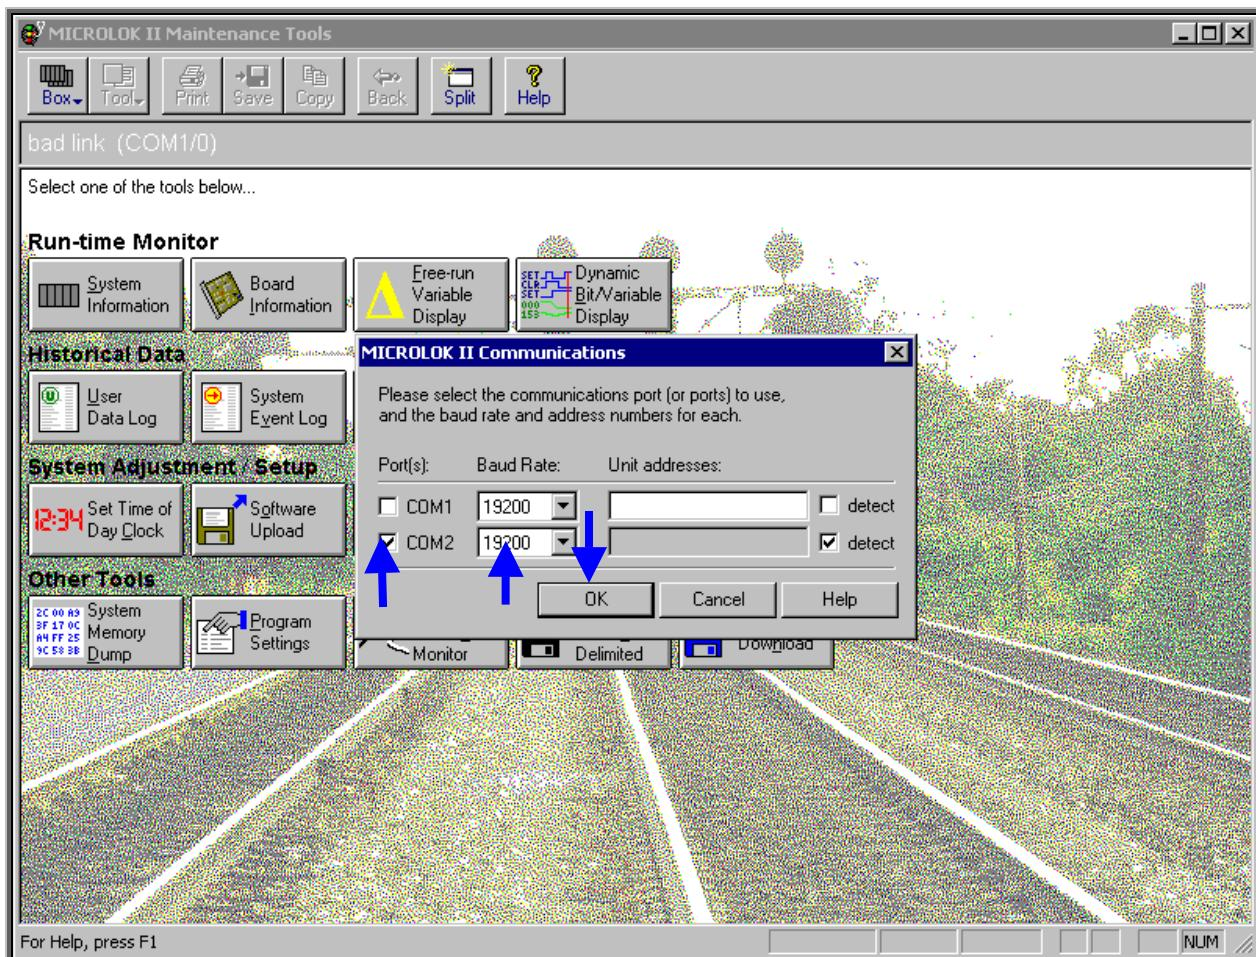

Figure-5.9.2
- ◆ “MICROLOK II Communications” dialog box appears (Figure-5.9.2).